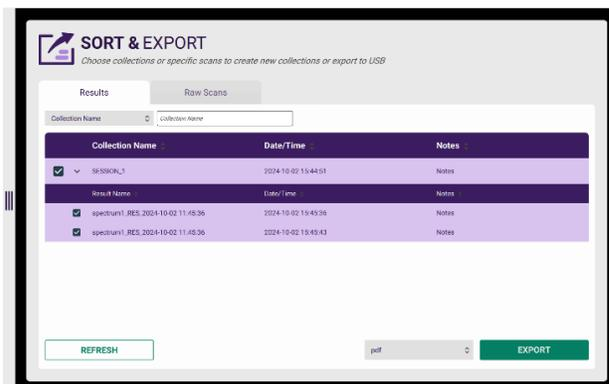

Figure 21. Chronological logs of all collection files for the system that are ready for export.
- Files are organized by collection name, sample name, and date/time. The files can also be filtered or sorted by name or date/time as well to easily locate any files (**Fig. 21**).